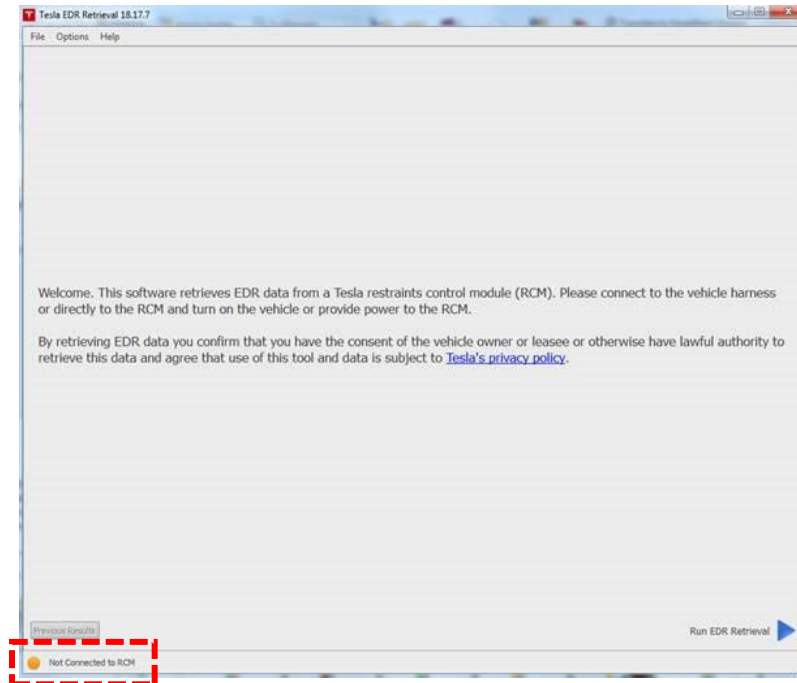

Figure 49. EDR program not successfully connected
- If the Tesla EDR Retrieval Program is communicating with the PCAN-USB adapter, but is not communicating with the RCM, a message displays “Not Connected to RCM” (Figure 49)